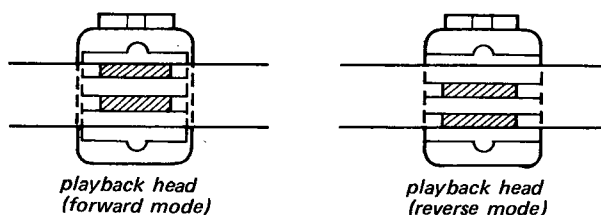

Fig. 29.
- (1) In the play mode, adjust by the height and zenith adjusting screws so that the upper side of the core of the right side playback head comes in close contact with that of the tape as shown in Fig. 29.
- (2) Perform zenith adjustment to make the slit of head core gap parallel to the tape guide.
- (3) In the reverse play mode, adjust by the height and zenith adjusting screw so that the lower side of the core of the left side playback head comes in close contact with that of the tape as shown in Fig. 29.